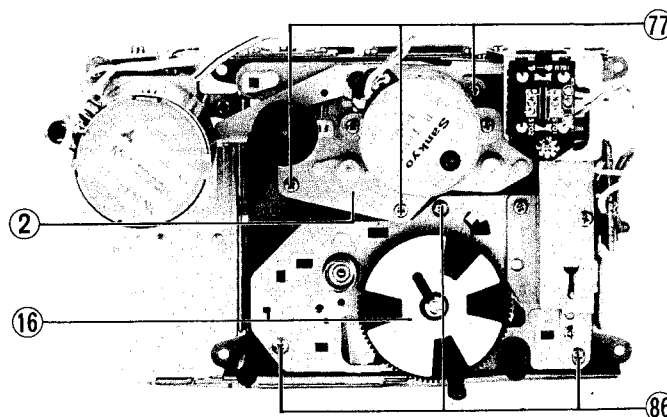

Fig. 14
**K. Reel disk ass'y ② (Fig. 14)**
2. Remove 3 screws ⑦⑦ .
**L. Drive gear ass'y ①⑥ (Fig. 14)**
2. Remove 3 screws ⑧⑥ .